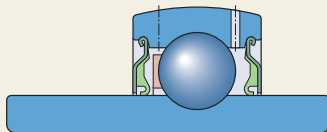

Fig. 4
- with grub (set) screws (fig. 4)